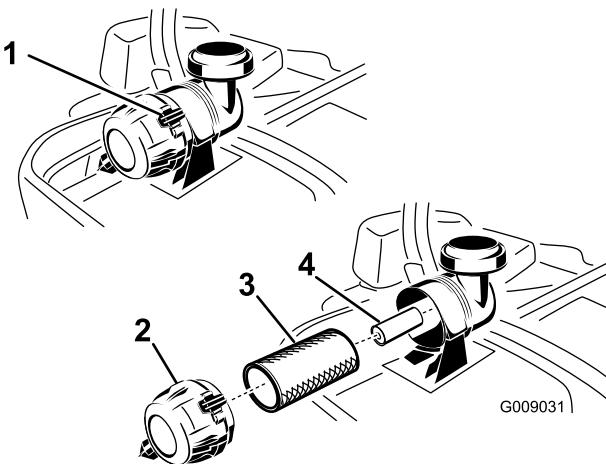

Figure 47
3. Push down to release the retaining clamps on the air cleaner, and pull the air-cleaner cover off of the air-cleaner body (Figure 47).
5. Gently slide the primary filter out of the air-cleaner body (Figure 47). Avoid knocking the filter into the side of the body.
1. Do not clean the paper filter, replace it (Figure 47).
2. If the secondary filter is being replaced, carefully slide it into the filter body (Figure 47).
3. Carefully slide the primary filter over the secondary filter (Figure 47).
5. Install the air-cleaner cover with the breather cap down, and rotate so that the retaining clamps lock the cover in place (Figure 47).